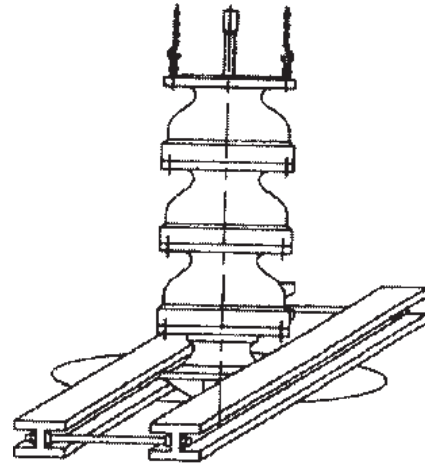

Figure 5
3. Place two I-beam supports across the base plate opening, strong enough to safely support the weight of the entire pump assembly. These I-beams should be connected by threaded rods and nuts so as to clamp them firmly together for the portion to be supported. (See Figure 5).
8. Attach sling to elevator clamps or eye bolts and hoist into position over foundation opening (See Figure 5).